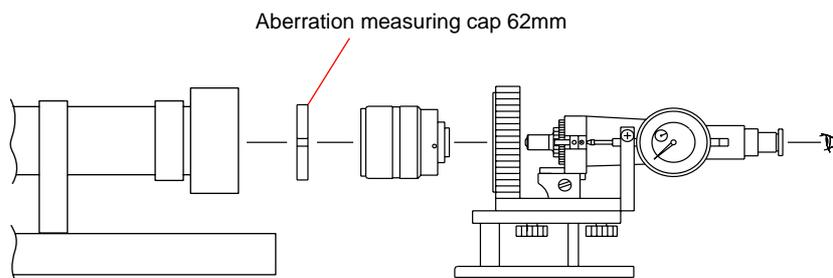

Fig.4-5-1
- 2) Set the aberration measuring cap 62mm (F11 equivalent) on the tip of lens as shown in the Fig.4-5-1, then measure the flange back (f’F).